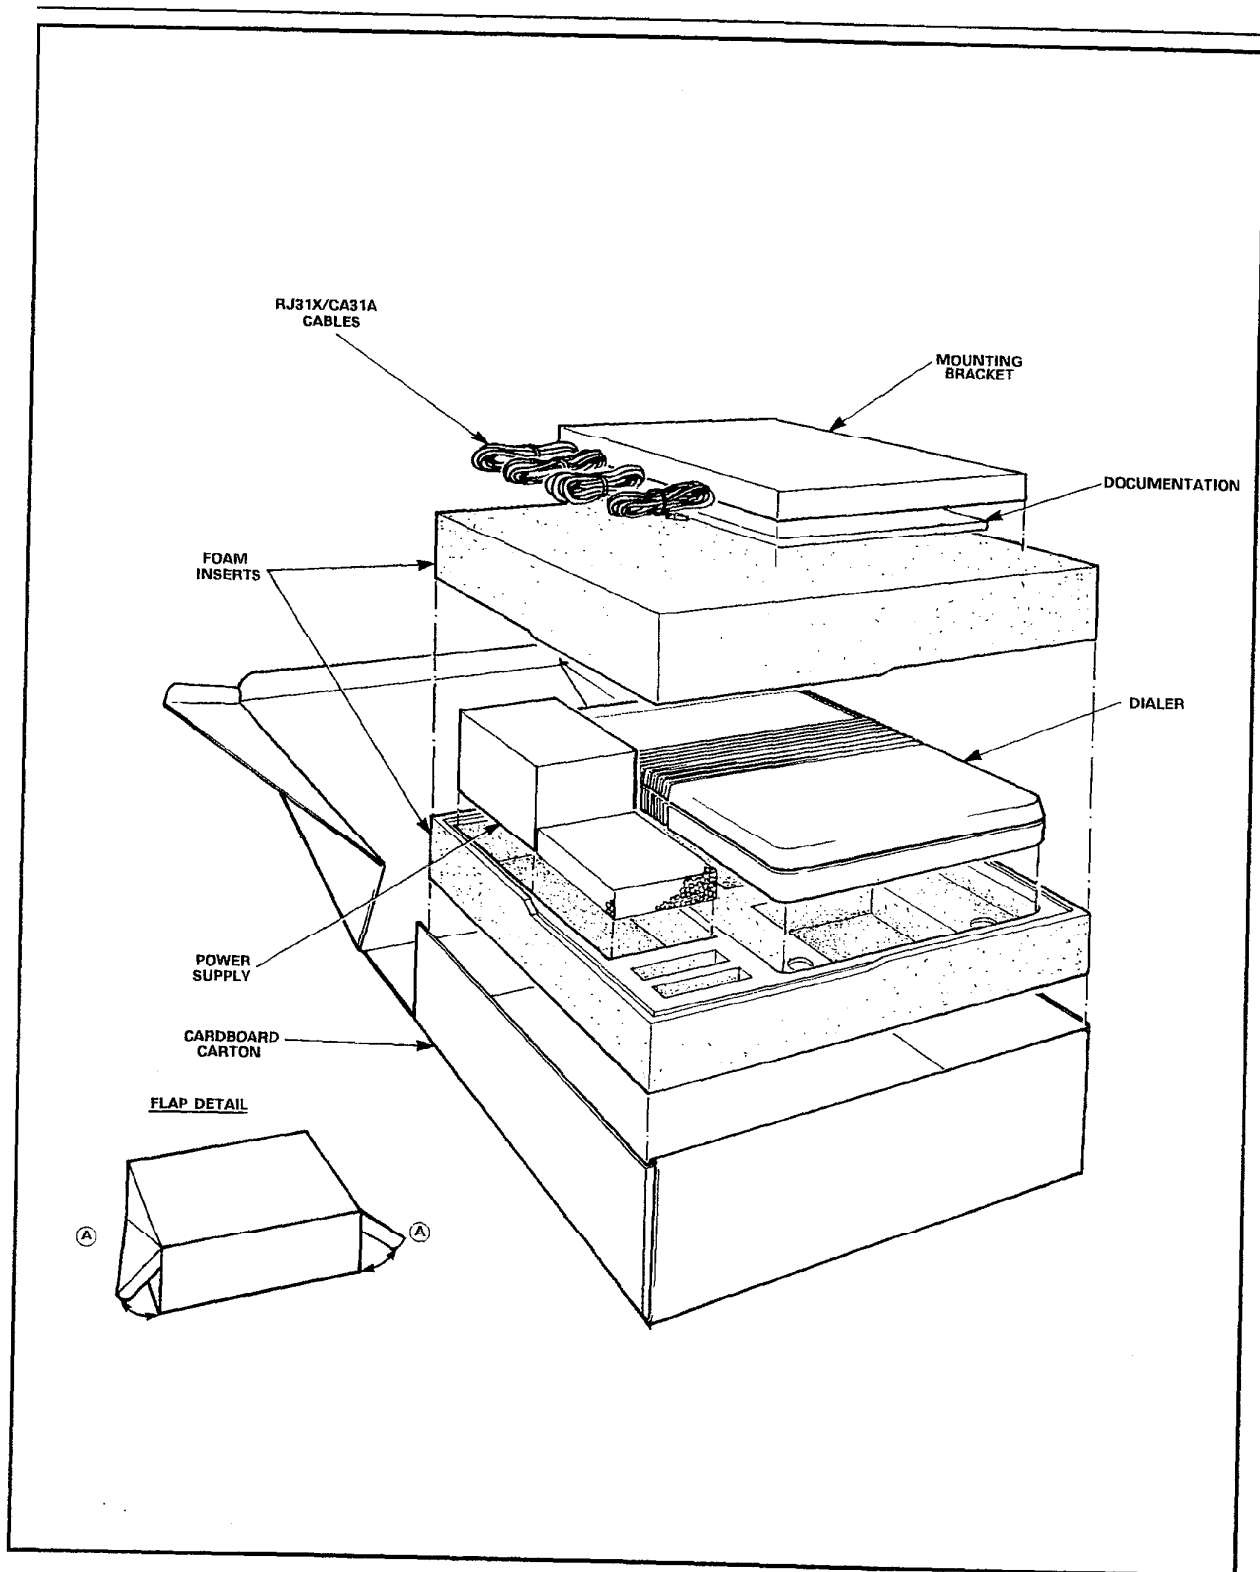

Figure 4-1, Equipment Unpacking and Repacking
**4.03** The procedure below lists steps to take when unpacking the equipment (refer to Figures 4-1 and 4-2):
**4.04** If an item is found to be defective or damaged and is to be returned to the vendor, it should be tagged and packaged to prevent damage. If units are to be shipped from one location to another, these units should also be packaged in such a manner as to prevent damage. Figure 4-1 shows how the equipment was originally packed. This method of packaging should be followed as closely as possible.